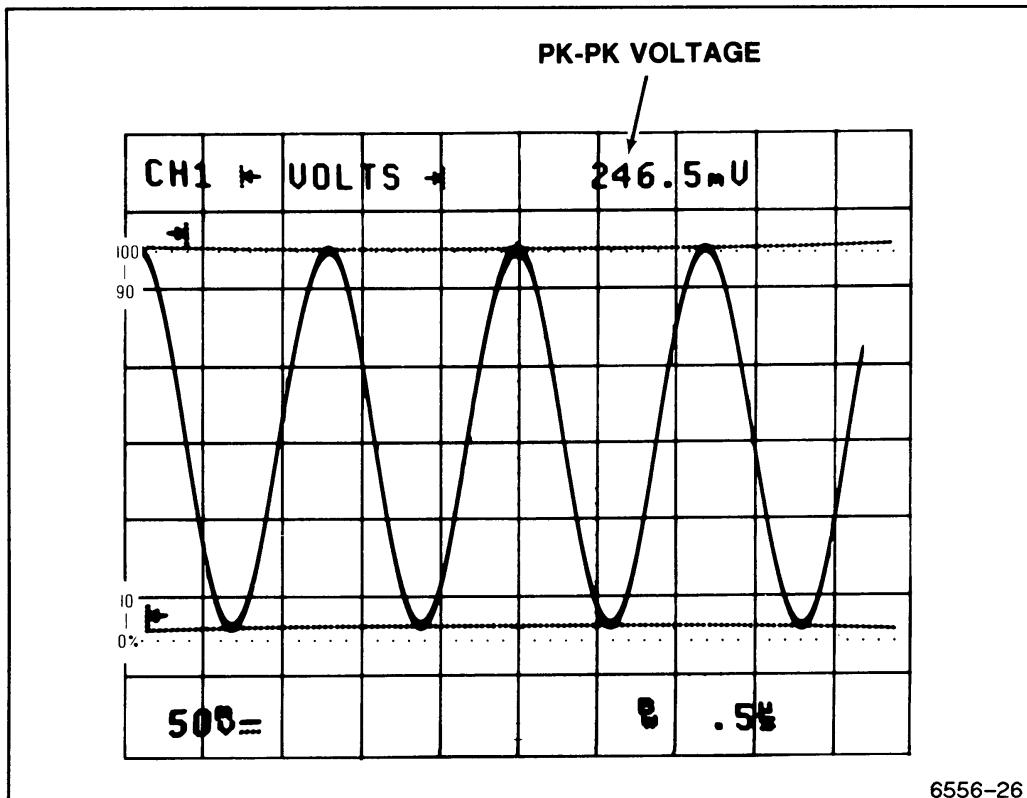

Figure 5-3. Voltage difference measurement using cursors.
4. Press the CURSOR VOLTS button to display the measurement selection menu and select the \leftarrow VOLTS \rightarrow cursors. The voltage cursors are initialized to the peak-to-peak levels of the lowest numbered displayed channel of either CH 1 or CH 2 (see Figure 5-3).